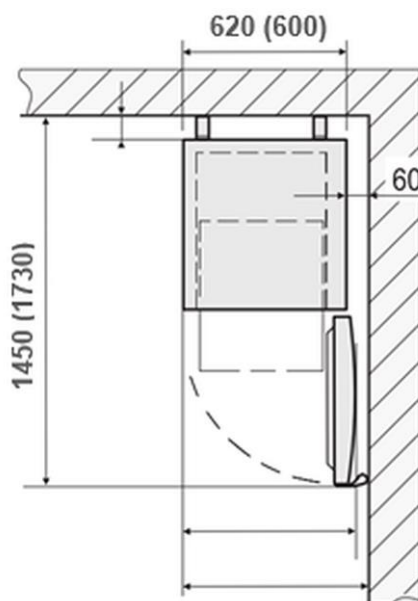

Fig. 7
- If the appliance is to be installed in a corner, maintain a lateral clearance of at least 60 mm (Fig. 7).